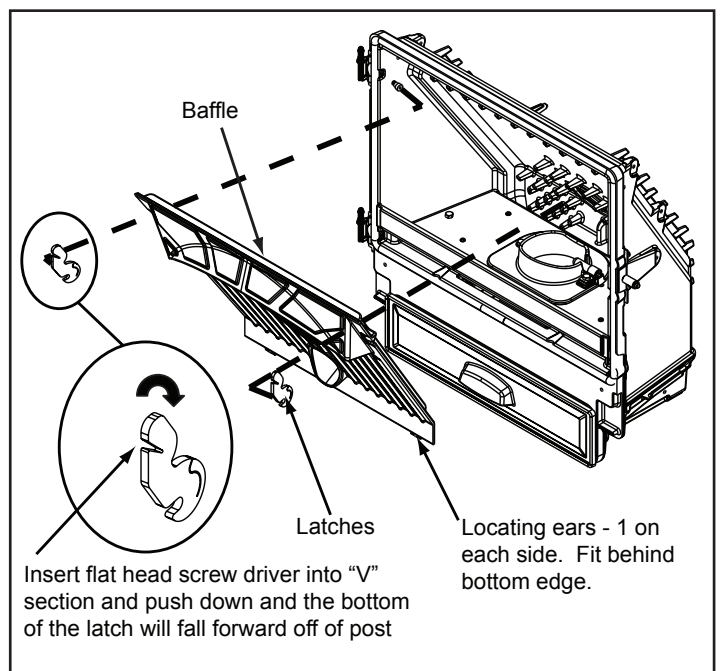

Figure 29.2
- Remove baffle by placing a flat head screw driver into the slot of the latches located in the upper corners and push down. The bottom of the latch will fall forward off of the post. Lift the baffle up and then out toward you. **Figure 29.2.**